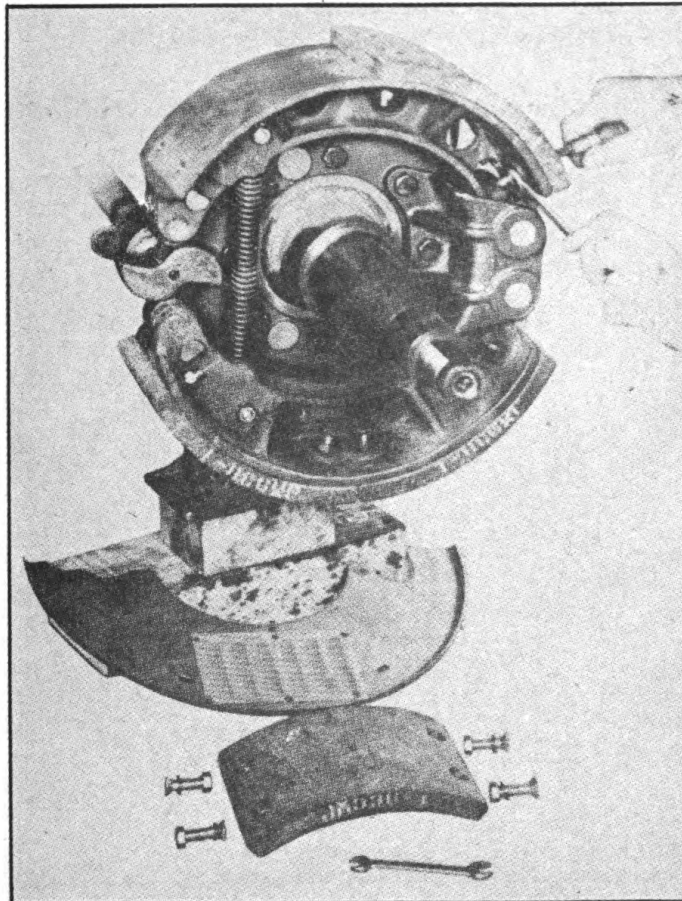

FIGURE 18, RELINING BRAKES
- (1) Remove wheel, hub and drum as an assembly when relining the brakes on the outer wheels. (See instructions for removing hub assembly in **Wheels, Hubs and Bearings** section.)
- (2) In order to reline brakes on inner wheels it will be necessary to remove the tires, wheel assembly, and then the hub.
- (3) Remove dust shields.
- (4) Remove bolts holding brake block to shoes (Figures 18).
- (5) Loosen the anchor pin nuts and lock nuts holding anchor pins.
- (6) Move anchor pins to check ease of operation.
- (7) **CAUTION:** It is very important that anchor pins move freely. A binding anchor pin will interfere when making major brake adjustment. Major brake adjustment is necessary after brake shoes have been relined.
- (8) Remove all rust and dirt from brake shoes, using a putty knife or an old file.
- (9) Place brake blocks on shoes and tighten, using bolts and lock-washers.
- (10) **NOTE:** Brake blocks are interchangeable with any brake shoe throughout trailer.
- (11) Place a film of grease over S-cam and install wheel and hub assembly.
- (12) Give brake a major adjustment. (Paragraph 5, this section.)